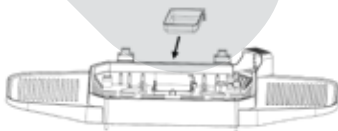

Fig. 8
9. Insert the grease collection container [17] (Fig. 8). It must be pushed into the grill housing and firmly lock into place. To remove, carefully push the grease collection container down a little before pulling it out.